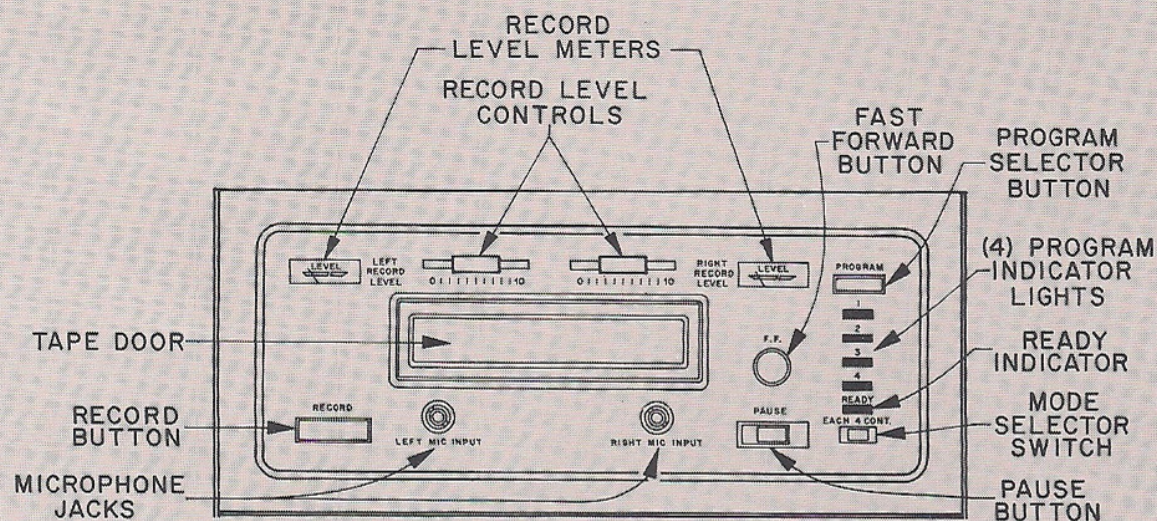

Figure 13
## TAPE RECORDER CONTROLS (Fig. 13)
3. Insert the Microphone Plug into either of the MIC INPUT Jacks (See Fig. 13) and follow instructions 3 thru 9 from Section C.